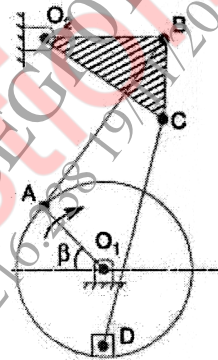

Fig. 1
- (b) Figure 1 shows a sewing needle bar mechanism O_1ABO_2CD wherein the different dimensions are as follows. Crank $O_1A = 16$ mm; Angle β (beta) = 45° ; Vertical distance between O_1 and $O_2 = 40$ mm, horizontal distance between O_1 and $O_2 = 13$ mm, $O_2B = 23$ mm, $AB = 35$ mm. Angle $O_2BC = 90^\circ$. $BC = 16$ mm, $CD = 40$ mm. D lies vertically below O_1 . Find the velocity of the needle D for the given configuration using ICR method when Crank O_1A rotates at 400 rpm. [12]